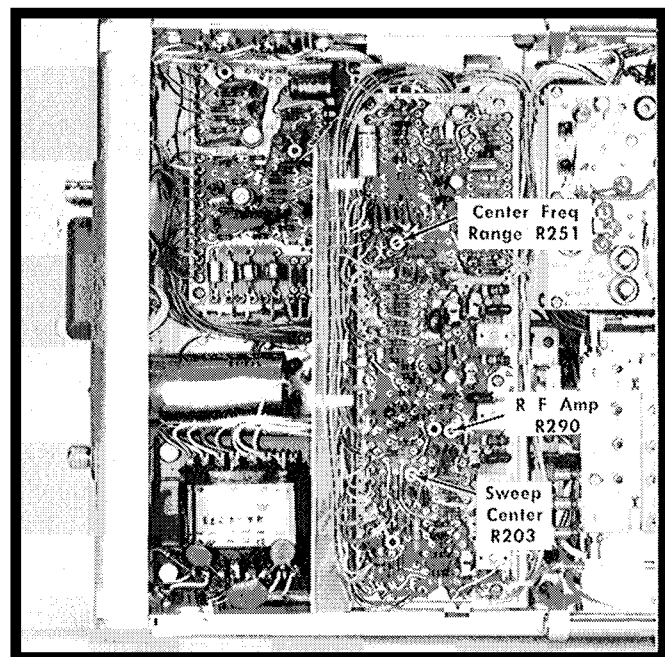

Fig. 6-18. Sweeper circuit adjustments.
- Adjust the RF Ampl R290 (see Fig. 6-18) for ± 0.85 volts ± 0.1 volt of trace deflection on the test oscilloscope.
- Adjust the Center Freq Range R251 (Fig. 6-18) for minimum IF signal shift as the DISPERSION selector is rotated through the 10 MHz to the .2 MHz positions. The DISPERSION RANGE switch must be in the MHz/DIV position for this adjustment.
- Adjust the Sweep Center R203 (Fig. 6-18) to position the 200 MHz signal at the graticule center horizontal line.